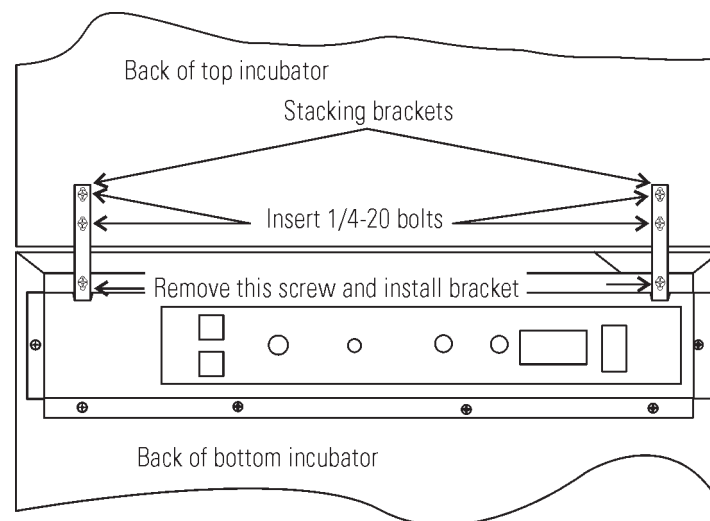

Figure 1-8. Two Screws From Control Panel Back
6. Remove and save the two screws from the back of the control panel on the bottom unit as identified in Figure 1-8.